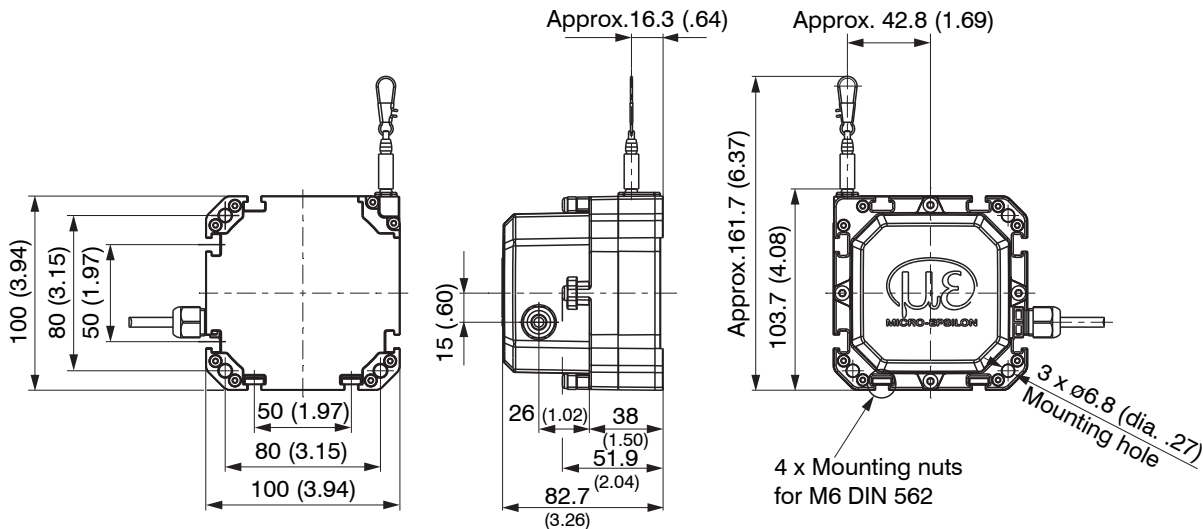
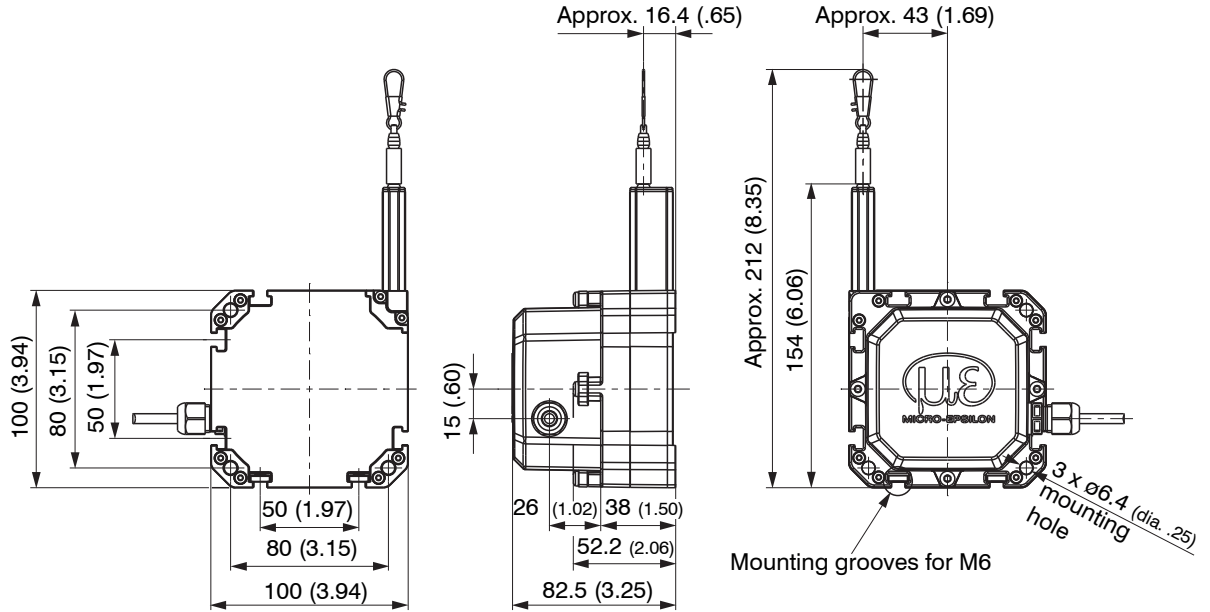

Fig. 2 Dimensional drawing 1500-K100, WPS-2500-K100, with integrated cable, radial, length 1 m, dimensions in mm (inches)
Fig. 3 Dimensional drawing WPS-3500-K100, WPS-5000-K100, WPS-8000-K100 with integrated cable, radial, length 1 m, dimensions in mm (inches)
- ➡ Mount the sensor either with M6 screws (through-hole) or with slot nuts (mounting grooves) according to the specifications in the following table and according to the following figures, see Fig. 2, see Fig. 3.